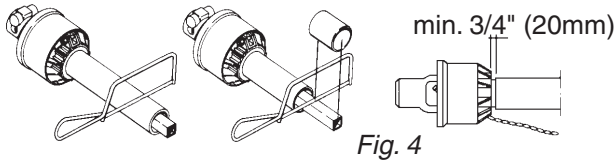

Fig. 4
4. Shorten the two parts equally. Use a saw, and file the profiles afterwards to remove burrs (Fig. 4).